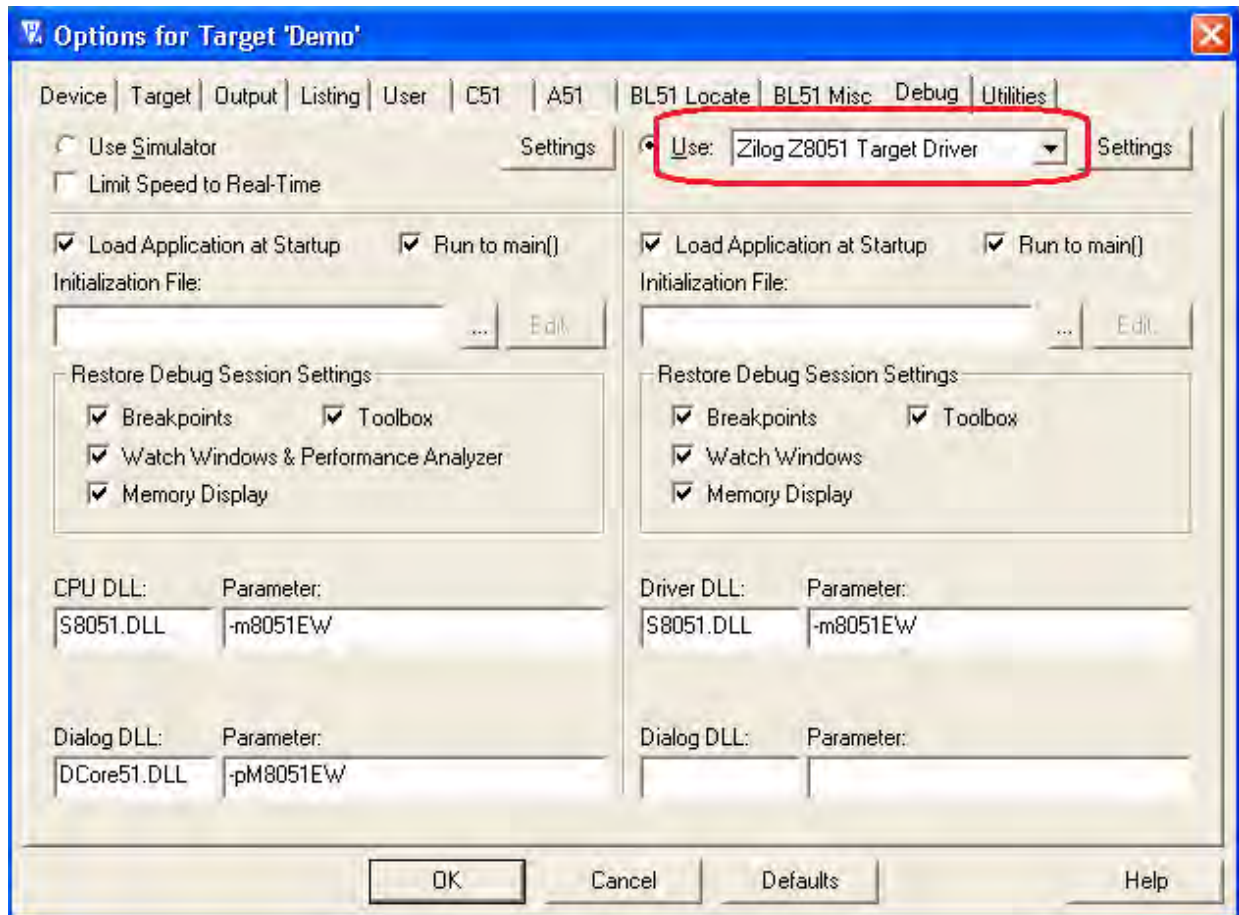

Figure 24. Selecting the Target Driver
6. After selecting the target, click the **Debug** tab and select the **Zilog Z8051 Target Driver** from the **Use:** drop-down menu, as highlighted in Figure 24.